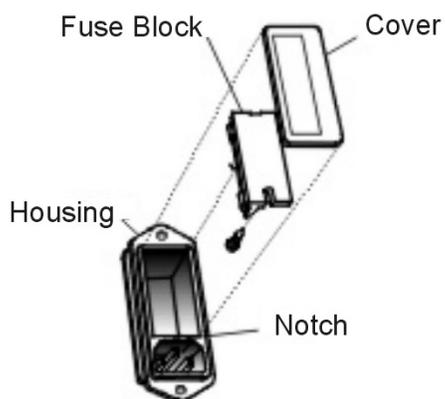

Figure 5-1: Removing Fuse Block from Housing
1. Place small screwdriver in notch, and pry cover off, as shown in Figure 5-1.
4. Reassemble housing as shown in Figure 5-1.